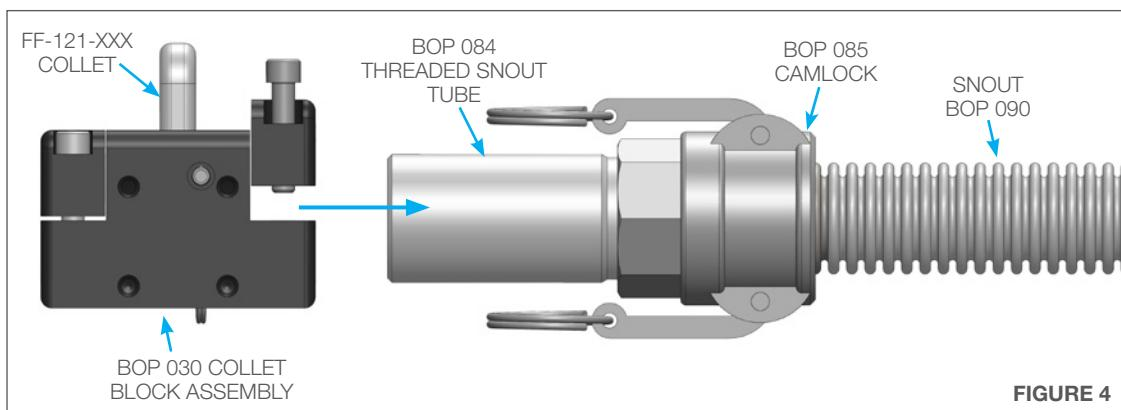

FIGURE 4
4. Loosen the two screws on the collet cap block and slide the BOP 030 Collet Block Assembly onto the BOP 084 Threaded Snout Tube. Push the Collet Block until it stops on the Snout Tube, then tighten the two screws securely. (**Figure 4**)